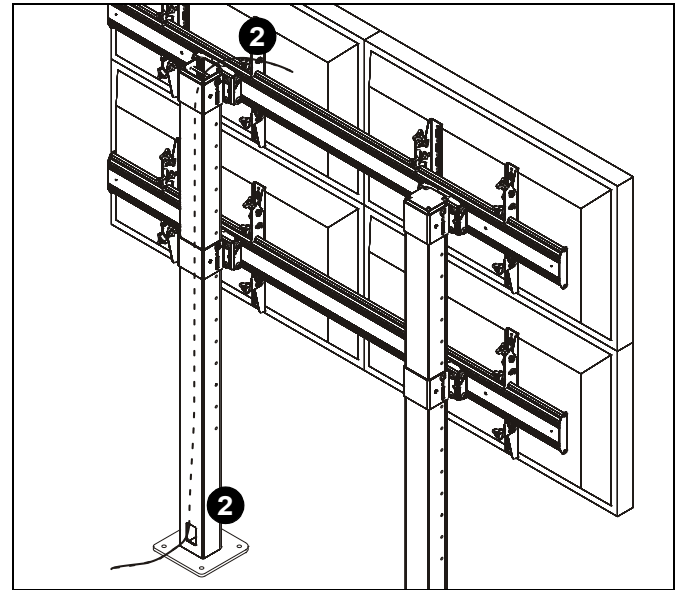

Figure 6
2. Cables may be routed through tops of columns and out through the back cable management hole. (See Figure 6)